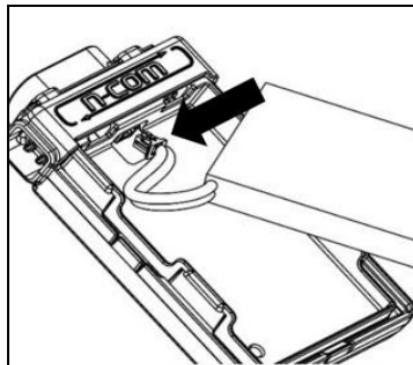

Fig. 2
- Connect the battery to the port (Fig. 2), taking care to insert it correctly. If necessary, use the provided flat head screwdriver to insert the battery connector fully into the port.